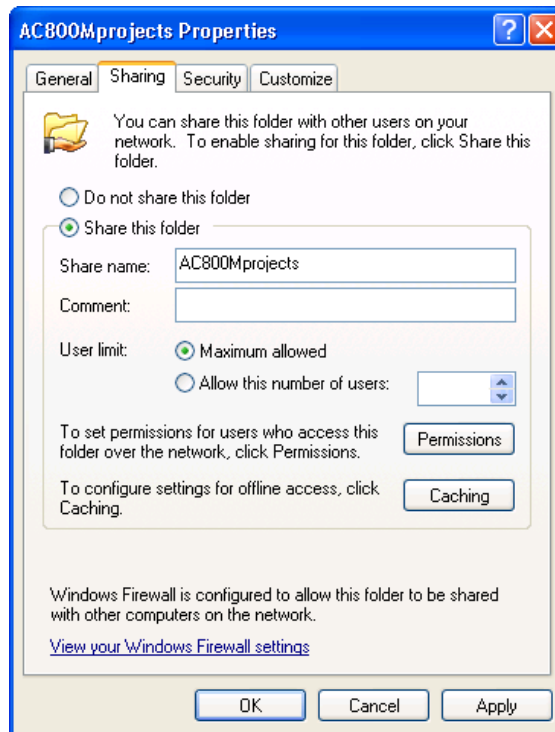

Figure 68. Property dialog with the Sharing tab active.
4. Select **Sharing** tab and click **Select this folder** radio button. Locate the settings from the Properties dialog in Figure 68.